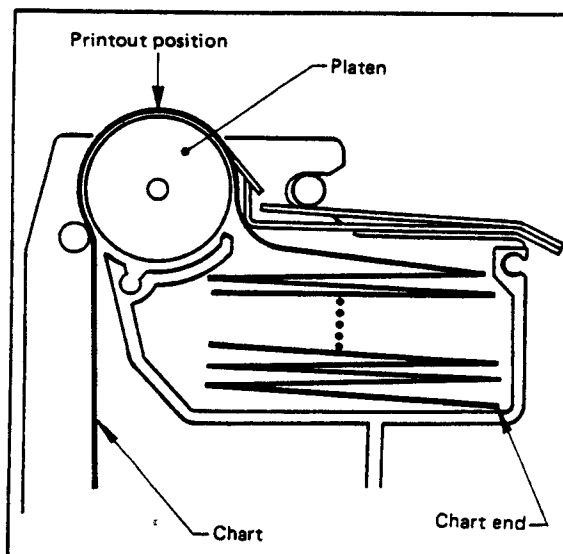

Figure 10-11.
- 2) As shown in Figure 10-11 load new chart so that the length from the printout position to chart end is 2000 ± 100 mm (Approx 32 to 35 folds) and the direction of chart end agrees with the direction shown in the figure.
If chart cut to an appropriate length is used, after the length between the printout position and chart end shown in Figure 10-11 reaches approximately 855 mm, confirm that the “CHART” indicator LED lights.